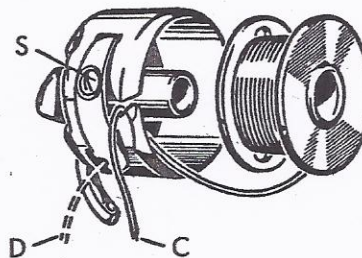

Fig. 3
- Insert bobbin into bobbin case, with the flange provided with holes towards the inside (fig. 3). Pass thread first through bobbin case cutting (position «C») and then under tension spring (position «D»), leaving about 4 inches of thread hanging out.
Lower tension is increased by tightening screw «S» (fig. 3) and it is decreased by loosening same.